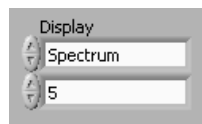

Fig. 19 (Display)
The *Display* feature allows the user to switch between showing the individual spectrum acquired or the “averaged” spectrum. To view a specific spectrum in the averaged series select the display “Spectrum” option in the top box (**Fig. 19**) and use the arrows on the box below to scroll through the spectra numbers. To view the averaged spectrum simply select the “Average” display option in the top box.
- 1) After the analysis is complete, select “Average” in the *Display* window using the arrow keys on the top box (**Fig. 19**).